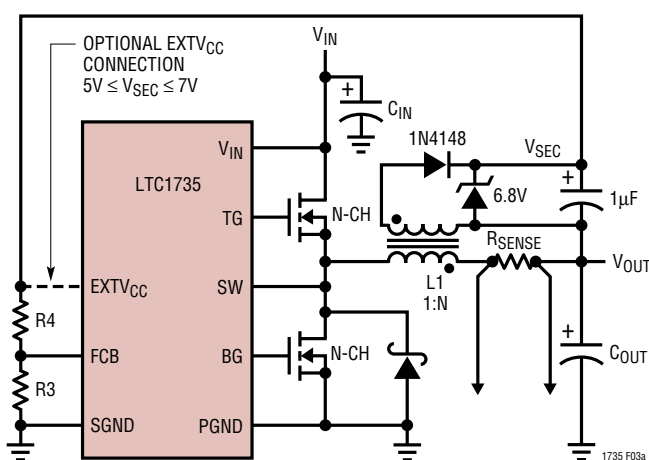
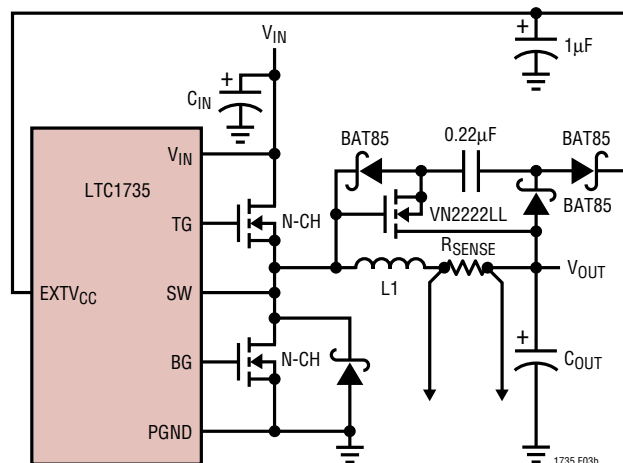

Figure 3a. Secondary Output Loop and EXTVCC Connection
Figure 3b. Capacitive Charge Pump for EXTVCC
3. EXTVCC connected to an output-derived boost network. For 3.3V and other low voltage regulators, efficiency gains can still be realized by connecting EXTVCC to an output-derived voltage that has been boosted to greater than 4.7V. This can be done with either the inductive boost winding as shown in Figure 3a or the capacitive charge pump shown in Figure 3b. The charge pump has the advantage of simple magnetics.
In addition to providing a logic input to force continuous synchronous operation and external synchronization, the FCB pin provides a means to regulate a flyback winding output (refer to Figure 3a). During continuous mode, current flows continuously in the transformer primary. The secondary winding(s) draw current only when the bottom, synchronous switch is on. When primary load currents are low and/or the  $V_{IN}/V_{OUT}$  ratio is low, the synchronous switch may not be on for a sufficient amount of time to transfer power from the output capacitor to the secondary load. Forced continuous operation will support secondary windings provided there is sufficient synchronous switch duty factor. Thus, the FCB input pin removes the requirement that power must be drawn from the inductor primary in order to extract power from the auxiliary windings. With the loop in continuous mode, the auxiliary outputs may nominally be loaded without regard to the primary output load.
The secondary output voltage  $V_{SEC}$  is normally set as shown in Figure 3a by the turns ratio  $N$  of the transformer: